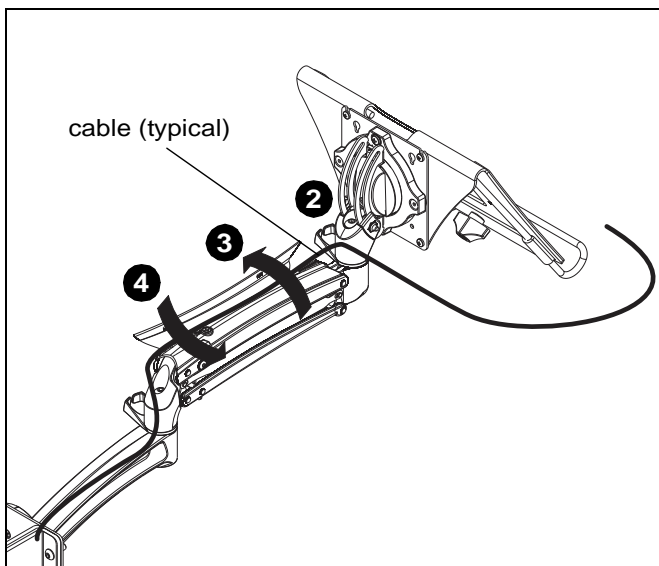

Figure 9
3. Route cables through cable management channels. (See Figure 9)
4. Close cable management covers on monitor arm. (See Figure 9)